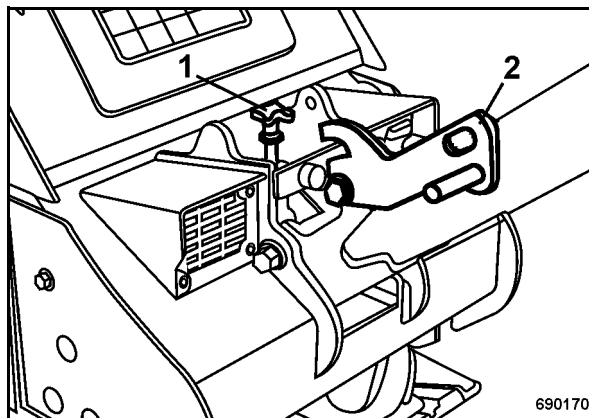

Fig. 16
- Pull the locking pawl lever (2) (Fig. 16) and lower the steering rod, so that it can swing freely.
- Adjust the steering rod with the height adjustment (1) to the height of your body.